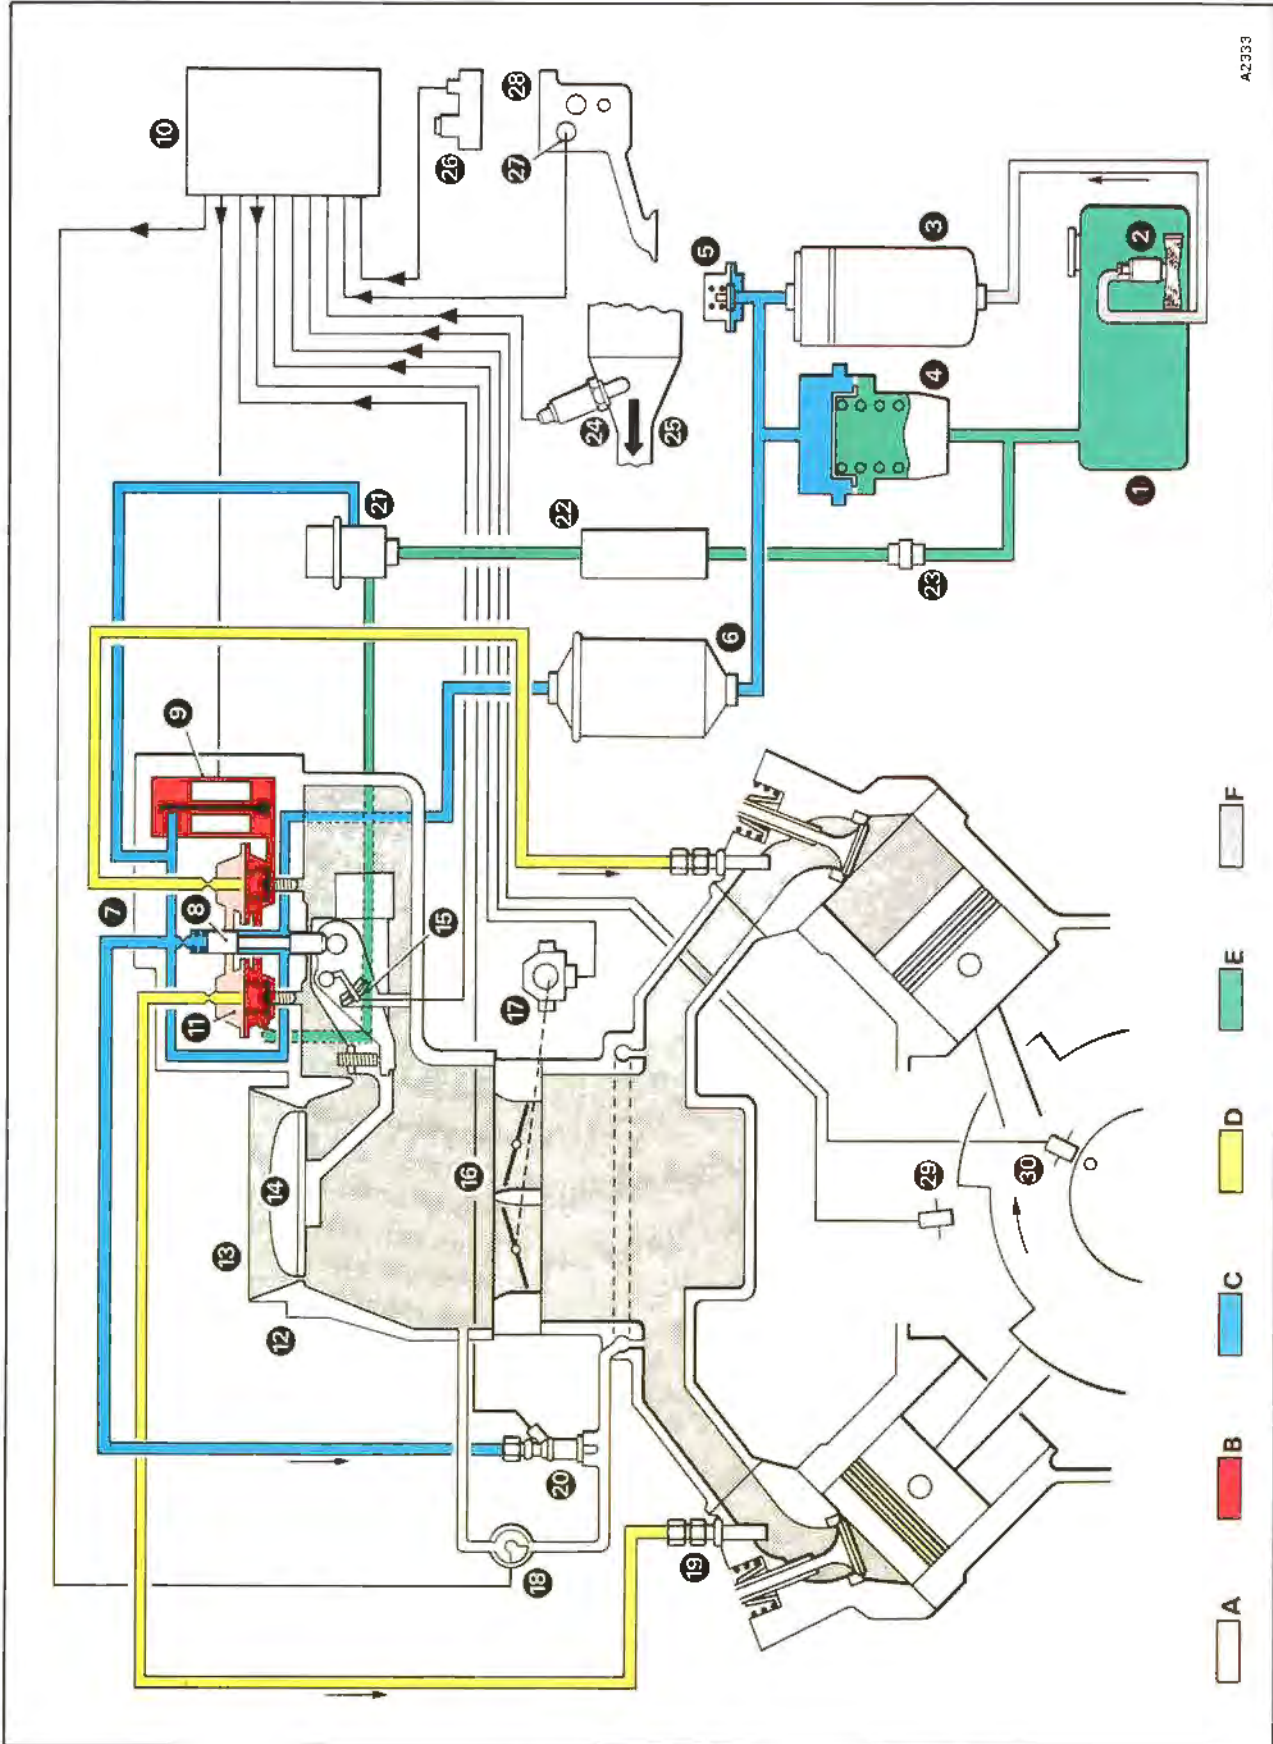

Fig. B4-4 Fuel injection system
Primary fuel pressure is controlled by the fuel pressure regulator (see figs. B4-4 and B4-9).
**Key to fig. B4-4 Fuel injection system**
Fuel is distributed uniformly to the cylinders via an accurately machined control piston and barrel assembly (see figs. B4-4 and B4-8). This assembly operates by controlling the open cross sectional area of the metering slits machined in the barrel.